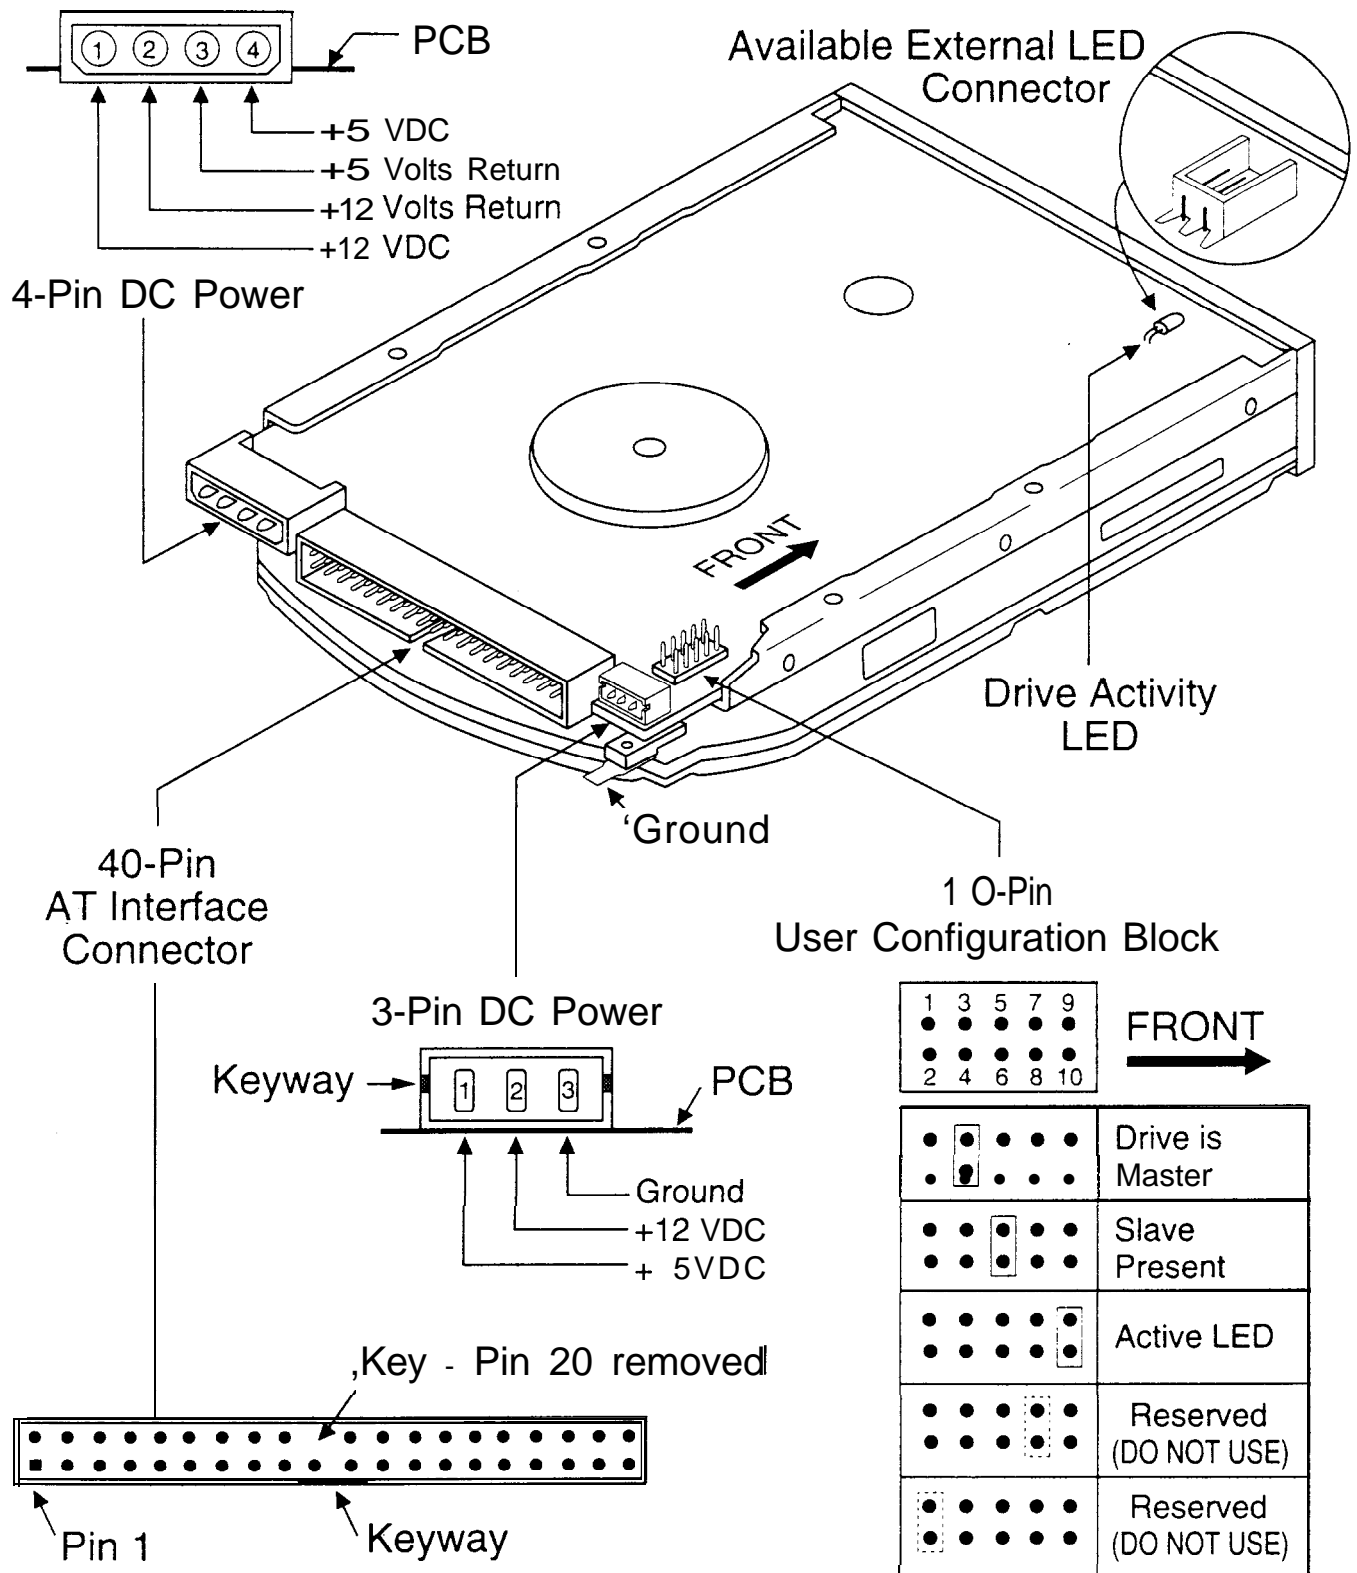

Figure 1: AT jumpers and connectors
3. **Master/Slave configuration.** The table below defines jumper settings for configuring up to two drives on a single AT bus, Refer to Figure 1 for jumper locations.
Note. Most cables have a stripe on one side to designate the Pin 1 location. Make sure Pin 1 on the interface cable connector is connected to Pin 1 on the drive interface connector and Pin 1 on the host connector. Refer to Figure 1 for the location of Pin 1 on the drive interface connector.